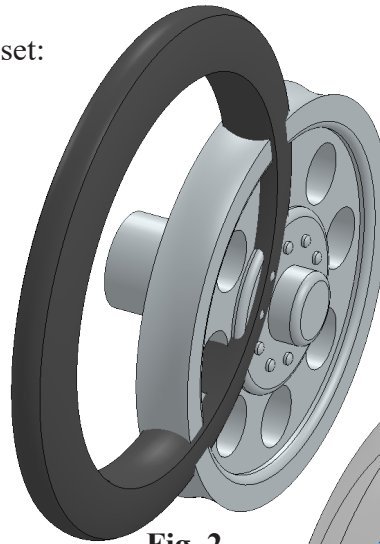

Fig. 2
Step 6. Click approximately where Tire is positioned in **Fig. 2**. Click OK  in the Property Manager when done.